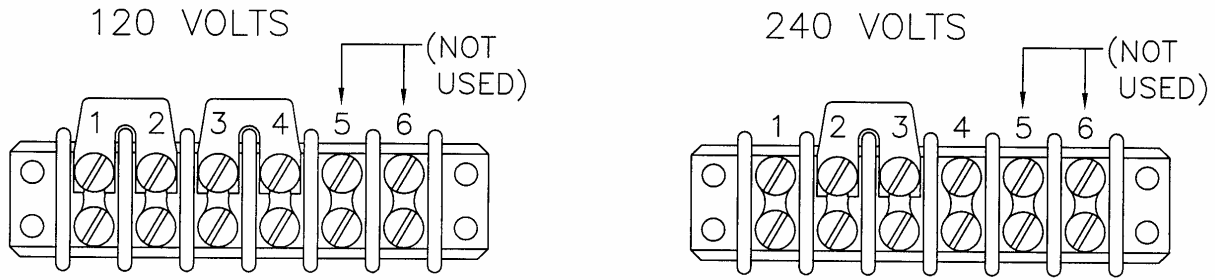

FIGURE 8A AC VOLTAGE SELECTOR BLOCKS
- 3) Locate the Terminal Block(s) with Jumpers (one Terminal Block per phase) and the label describing the various voltage/jumper configurations. (Refer to FIGURES 8A-8F). The Terminal Block(s) with Jumpers are located on the Ferroresonant Transformer(s).